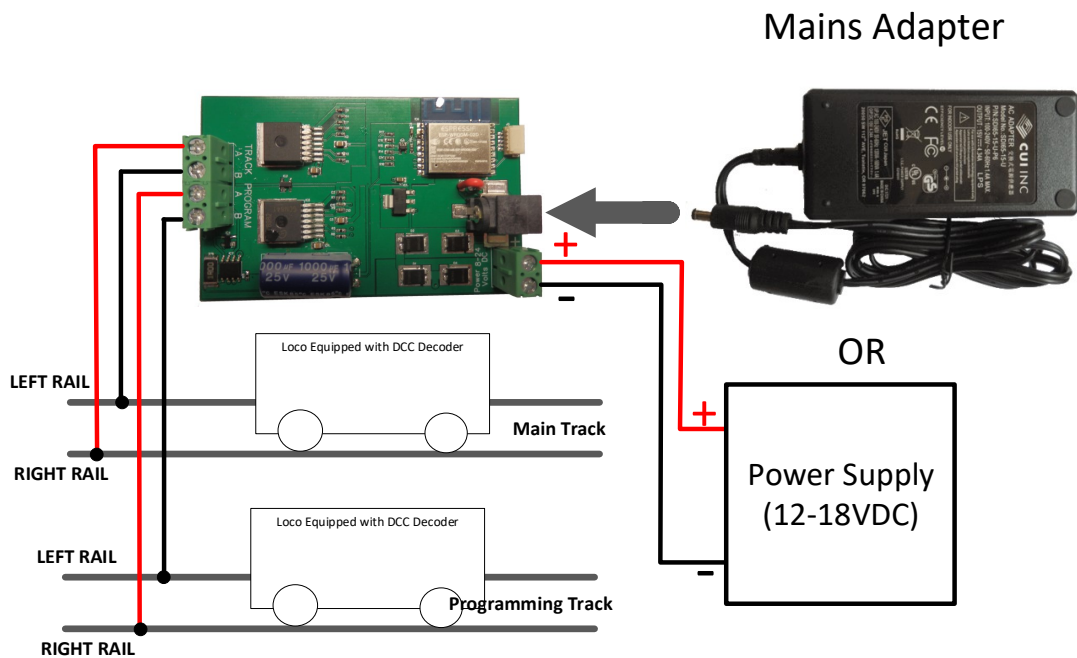

Figure 2. Connections to Power Supply and Decoder when mounted trackside
- (2) Connect the Output DCC connections to the main and programming tracks as in as shown in Figure 2. The WFD-25 does not include auto-reverse, so if locomotives will be driven from the main track to the programming track, these tracks must be wired with the same polarity otherwise the drivers will shutdown when the locomotive causes a short by bridging the gap.